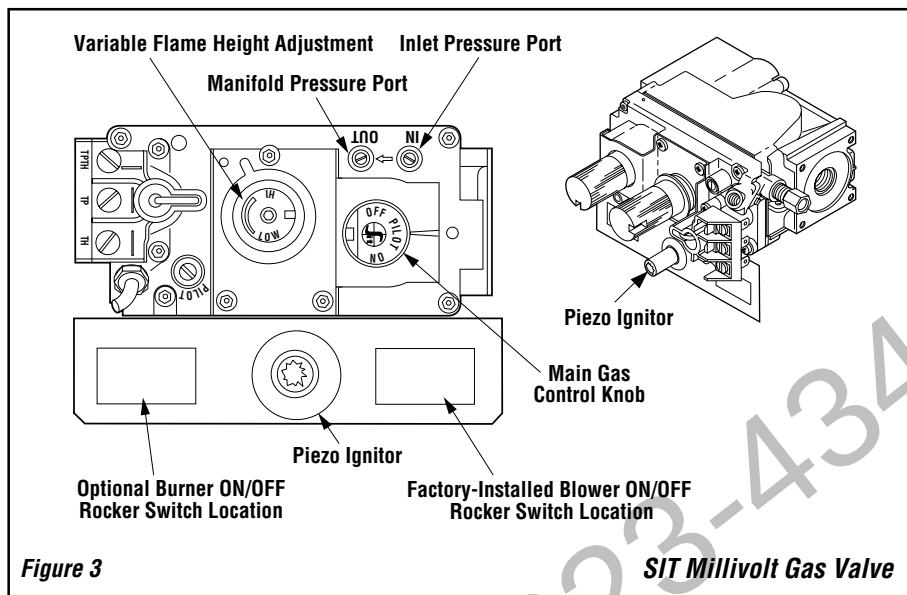
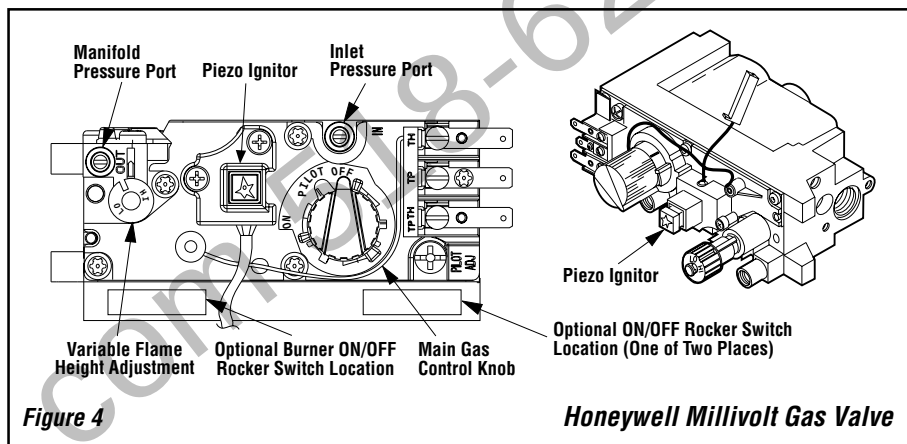

Figure 3
Figure 4
Millivolt appliances will be fitted with the gas control valve shown in **Figure 3 (SIT)** or **Figure 4 (Honeywell)** on page 4. Appliances with electronic systems will be fitted with the electronic valve shown in **Figure 2 on page 4**.
1. All Millivolt appliances are equipped with a variable gas control valve. Flame height for these models may be adjusted through a range between fixed low and high settings, alternately, while the appliance is in operation. Adjust the flame height as desired after lighting the appliance by rotating the variable adjustment control knob located on the front of the valve (**refer to Figure 3 - SIT, 4 - Honeywell**).